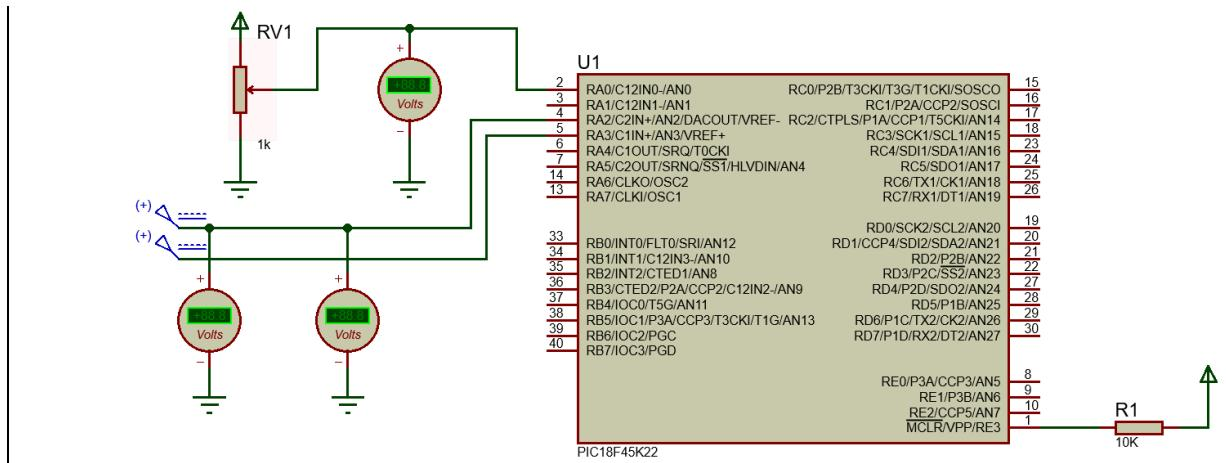

Figure A3 (b) / Rajah A3 (b)
- (c) Referring to Figure A3 (b), a 10-bit ADC module inside PIC18 converts analog signal from channel AN0. Carry out the values of ADCON0, ADCON1 and the digital output, Dout, if both Vref are taken from the external pin and the value of the AN0 is 0.5 volts. Use appendix A4 to A6 as references.